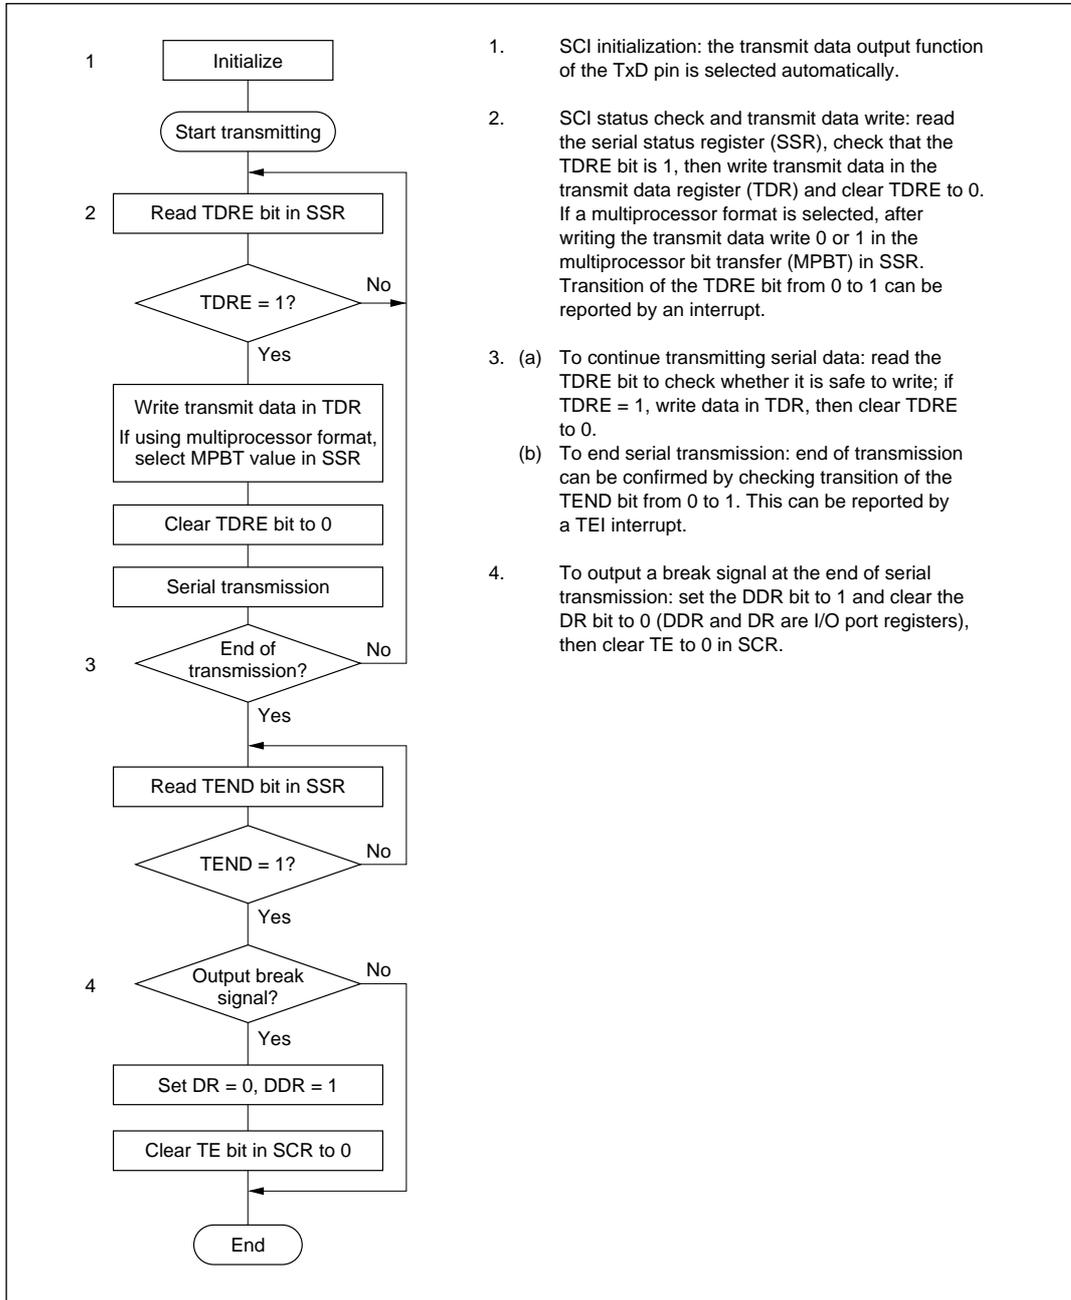

Figure 12-5 Sample Flowchart for Transmitting Serial Data
- **Transmitting Serial Data:** Follow the procedure in figure 12-5 for transmitting serial data.
- **Transmitting Multiprocessor Serial Data:** See figures 12-5 and 12-6.